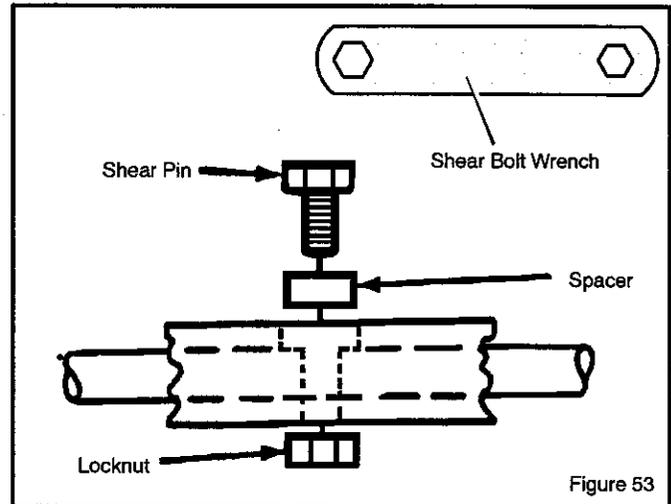

Figure 53
3. Align the hole in the auger with the hole in the auger shaft. Install new shear bolt, spacer and locknut found in the toolbox located on the belt cover (See Figure 53). Tighten with the shear bolt wrench.